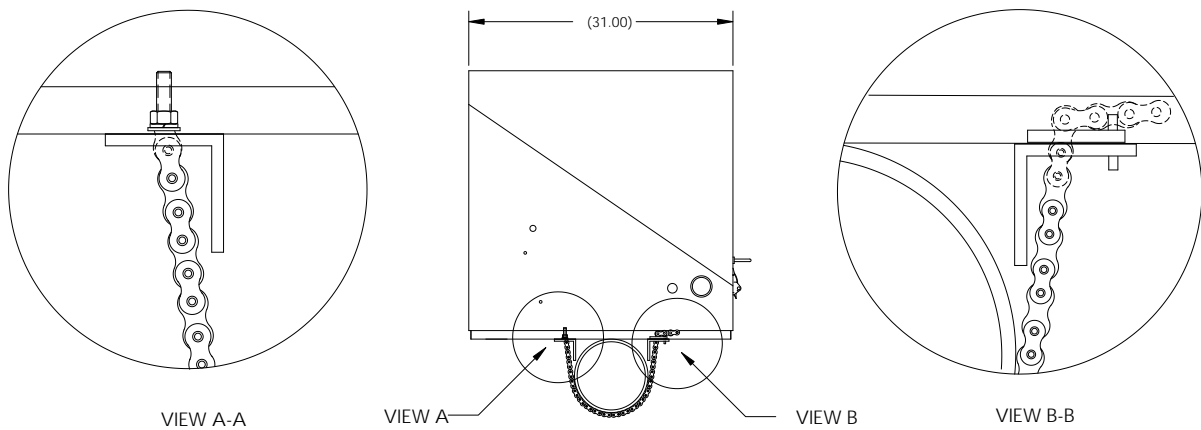

Figure 3-12 ENC82L–Pipe Mount installation
- 12) Wrap mounting chain underneath pipe (see Figure 3-12). Feed chain up through square retainer hole of angle iron and pull up until most of the slack has been taken out of the mounting chain.